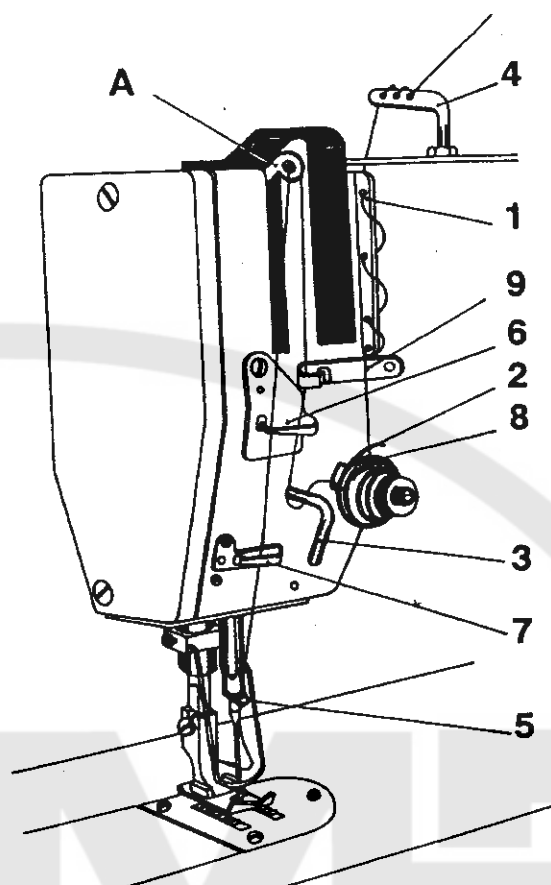

Figure 5
8. To thread the upper thread (Fig. 5)